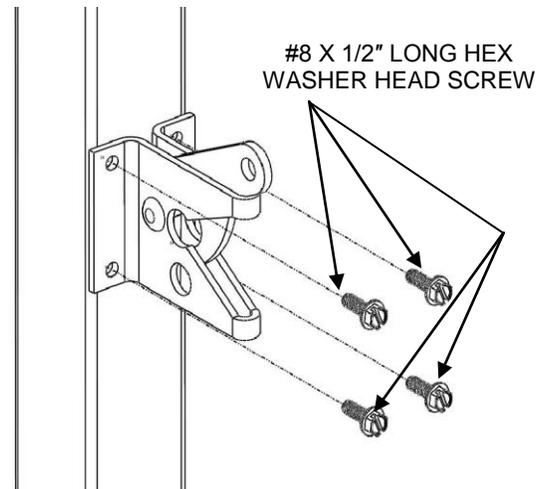

**FIG. 6.31**
- 6.10.5. Use 1/4" nut driver to secure catch with screws (FIG. 6.31).